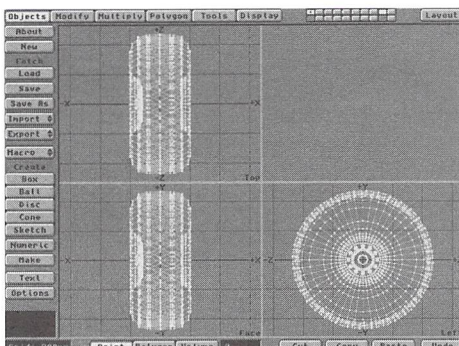

Figure 2: Wheels are centered in Modeler to make certain there are no "bumps" in their rotation.
- Load the vehicle body and the four wheels. The left and right wheels should be saved as individual objects from Modeler. Each wheel should have its pivot point in its exact center, so you'll have a smooth, even rotation. To do this, manually move the pivot point of each wheel from inside LightWave. I recommend loading (or importing) a wheel into Modeler, then selecting the **Macro** button (**Objects** menu) and executing the **Center** macro. The object will be placed in the exact center of the Modeler environment (Figure 2). Save (or export) the wheel and repeat this process for the others.